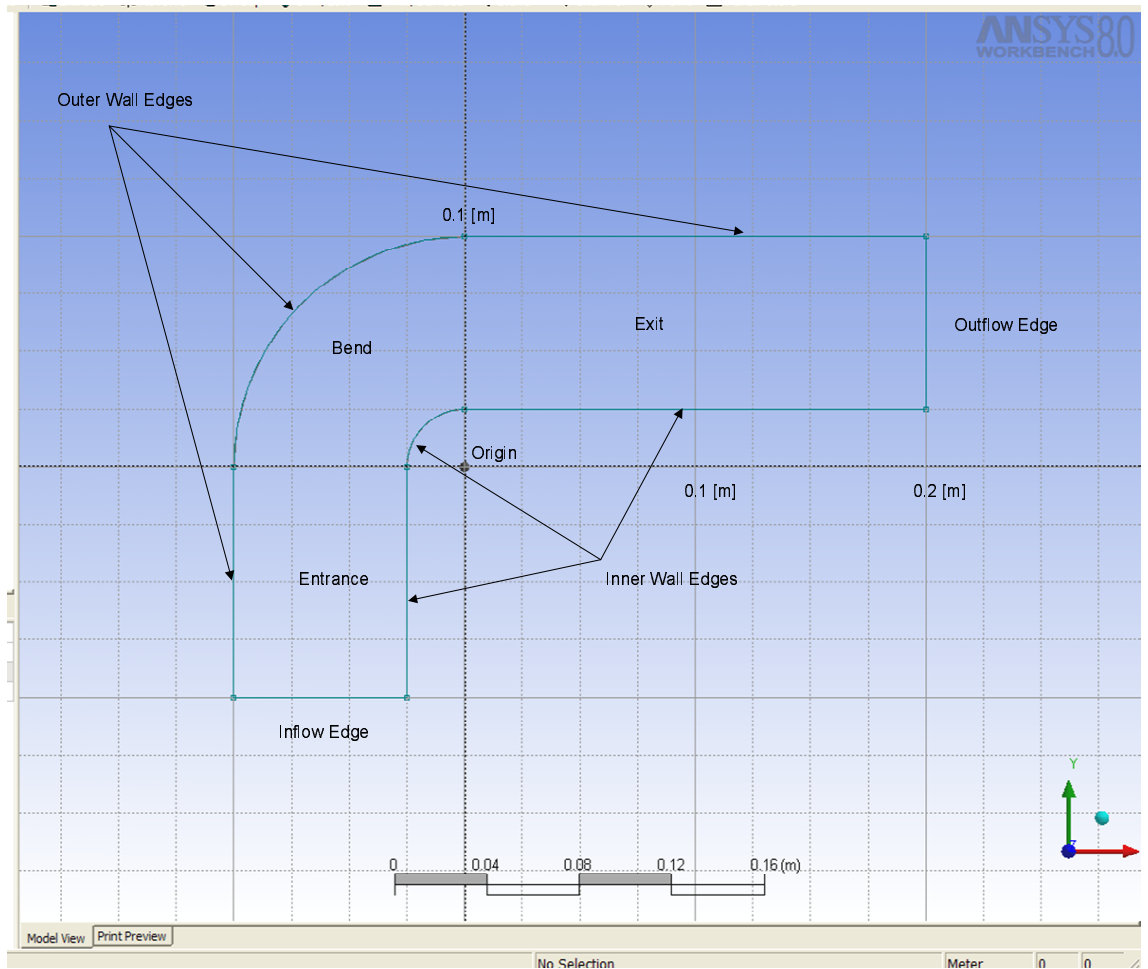

Fig. 2.1 Wireframe of the final sketch of the duct bend flow path.
- sketch in the flow path through the duct, Figure 2.1;
- To draw in the 2D sketch of the duct flow path (Figure 2.1)
- The surfaces (faces) of the solid are labeled as regions for ease of attaching the boundary conditions . To attach a region entity at the inflow (see Figure 2.1):